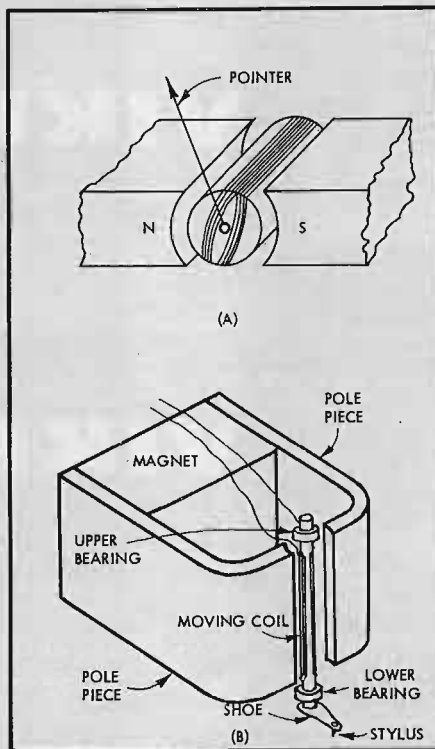
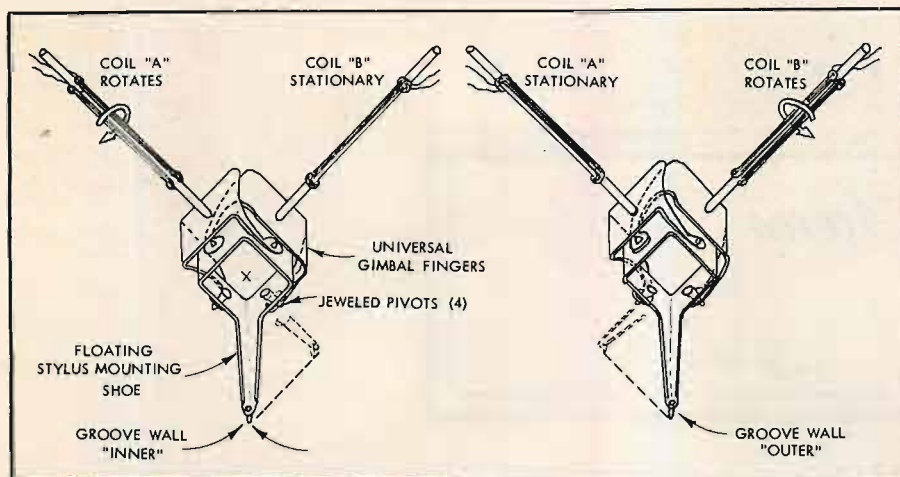

Fig. 2. (A) Diagram of a typical d'Arsonval meter movement, and (B) its adaptation as a phonograph pickup—the ESI C-60.
Fig. 3. Two d'Arsonval movements set at 45 deg. from the vertical and connected with the Gyro/Jewel coupling system.
In Fig. 2, (A) is a simplified line diagram of a typical d'Arsonval movement, while (B) shows the application of the principle to a monophonic pick-up, the ESL-C60 Series cartridge. Two similar systems were devised, and mounting assemblies designed to hold the armature axes at exactly 45 deg. from the vertical and at precisely 90 deg. from each other. The functioning of the movements is shown in Fig. 3.
As the stylus is influenced by the undulations of the record groove—in Fig. 3—angularly, to the left, the armature of generator A is caused to describe a corresponding rotary motion, while that of generator B, restricted by the armature mountings is unaffected by this excursion of the stylus.